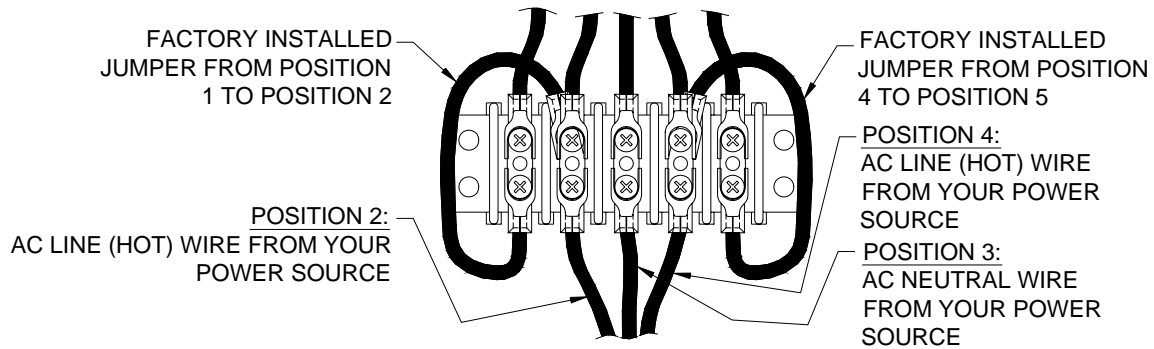

Figure 8 240 VAC Connections
3. If you are going to connect the scoreboard to a 240 VAC supply, connect one AC line wire to position 2, AC neutral wire to position 3, and the other AC line wire to position 4 of **Main Power** terminal block on the junction chassis according to figure 8.